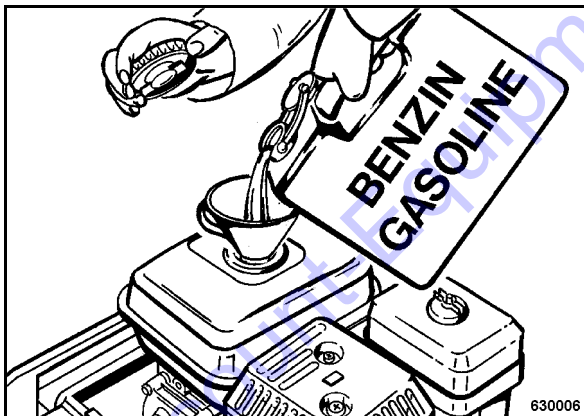

Fig. 30
- Fill in fuel through a funnel with screen filter (Fig. 30).